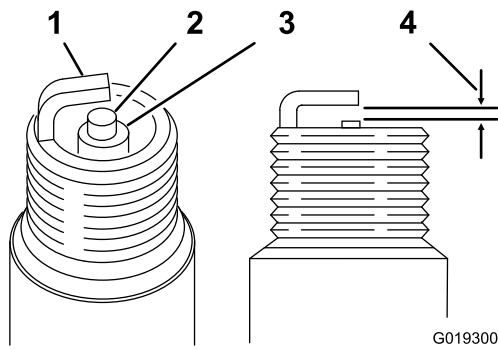

Figure 50
1. Look at the center of the spark plug (Figure 50). If you see light brown or gray on the insulator, the engine is operating properly.
2. Use a gapping tool for spark plugs or a feeler gauge to measure the gap between the side electrode and center electrode (Figure 50).